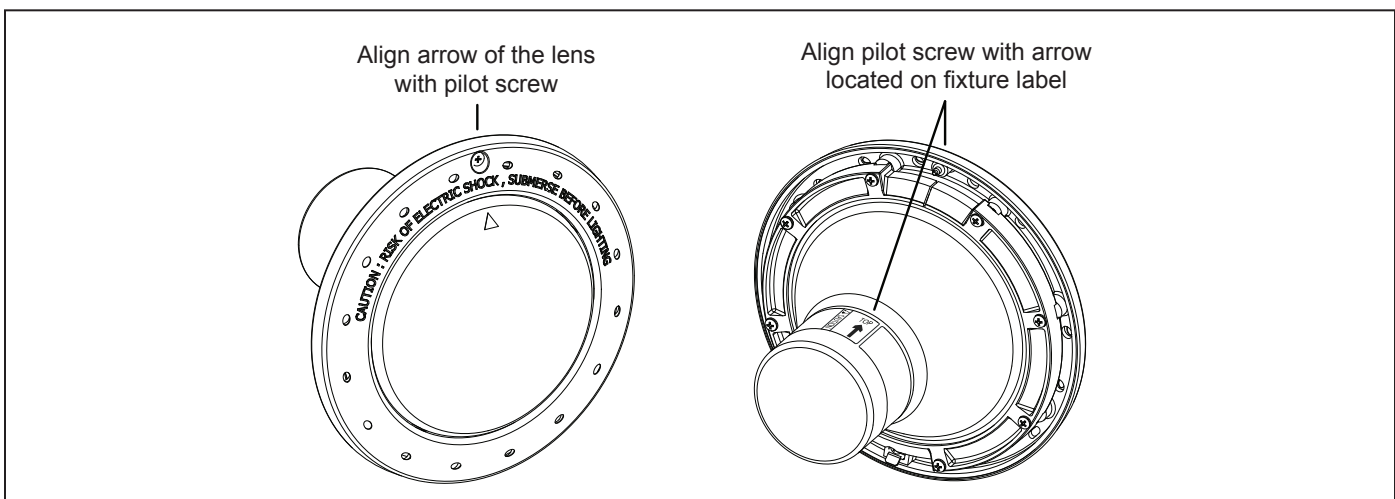

Figure 8. Alignment of the Lens, Face Ring, Housing and Clamps for Pool White Lights
- c. Position the lens and gasket on the fixture. Place the face ring and the top clamp over the lens and align the pilot screw with the small arrow mark on the face of the lens. Note that the small arrow mark on the face of the lens and the pilot screw of the face ring must be aligned with the arrow located on fixture label that reads, “Arrow on this label must line up with the pilot screw on the Face Ring”. See Figure 8.
- e. Spread the bottom clamp over the electrical cord and slide it onto the back of fixture to the top clamp. See Figure 8.